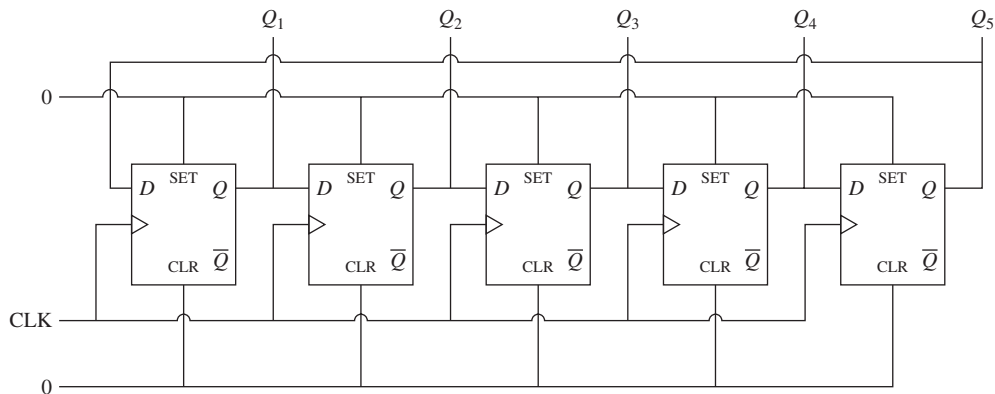

FIGURE P10.66 A 5-bit shift register.
10.66 (A) A 5-bit shift register constructed with D flip-flops is shown in Figure P10.66. At the first CLK rising edge, the output is as follows: $Q_1 = 0$, $Q_2 = 1$, $Q_3 = 1$, $Q_4 = 0$, $Q_5 = 0$. Provide the output at the second, third, fourth, and fifth CLK rising edges.